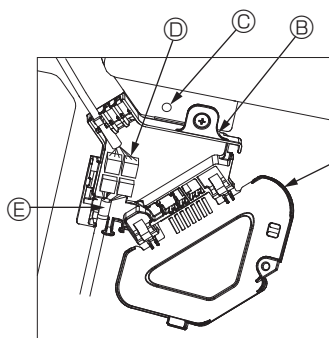

Fig. 10-8
- ① Remove the one screw securing the connector box cover, and then open the cover.
- ② Securely connect the junction wire connector of the vane motor and the panel vane motor wire connector in the connector box. (Fig. 10-8)